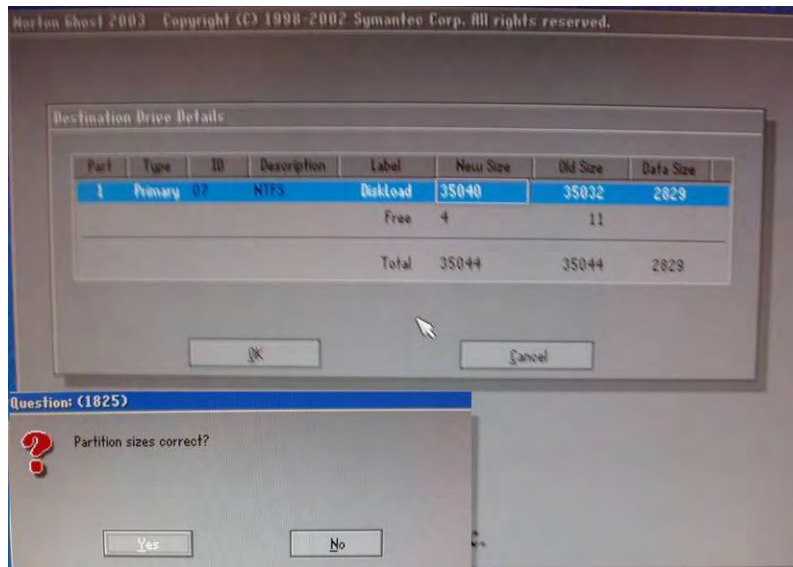

Figure 1-109. Ghost Start dialog
- After a couple of a seconds, a ghost start dialog is displayed (Figure 1-109). Click **Yes** to confirm correct partition size.